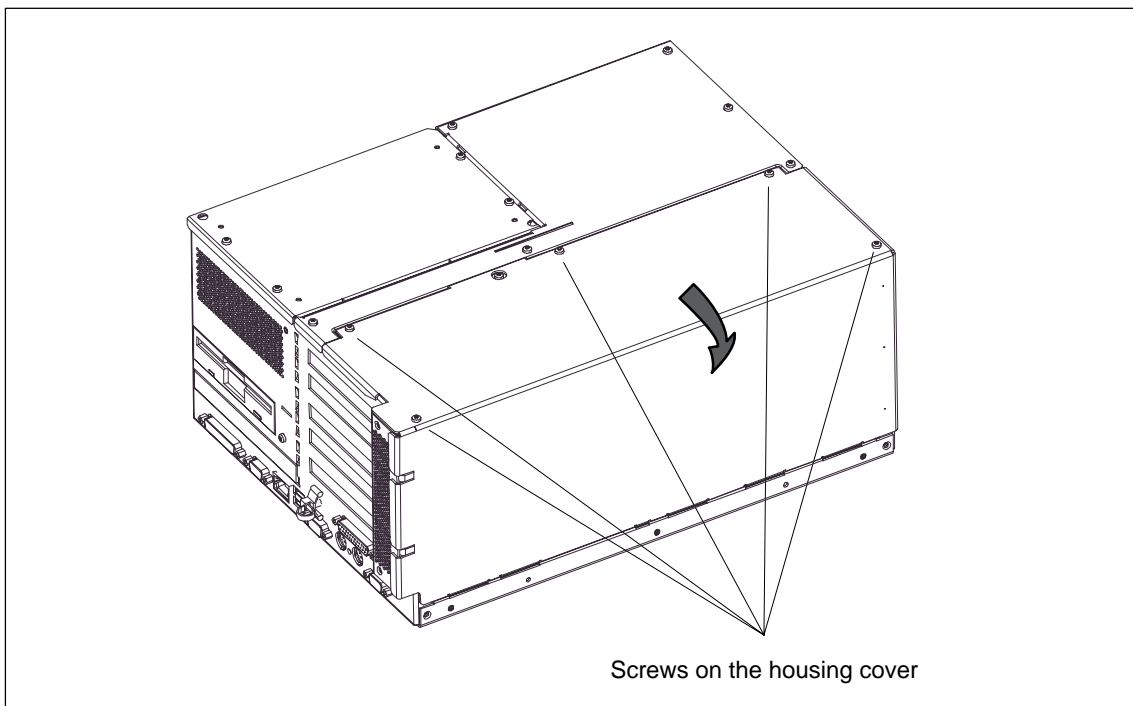

Figure 4-1 Computing unit prepared for opening
4. Loosen the two screws on the housing cover (see Fig. 4-1).